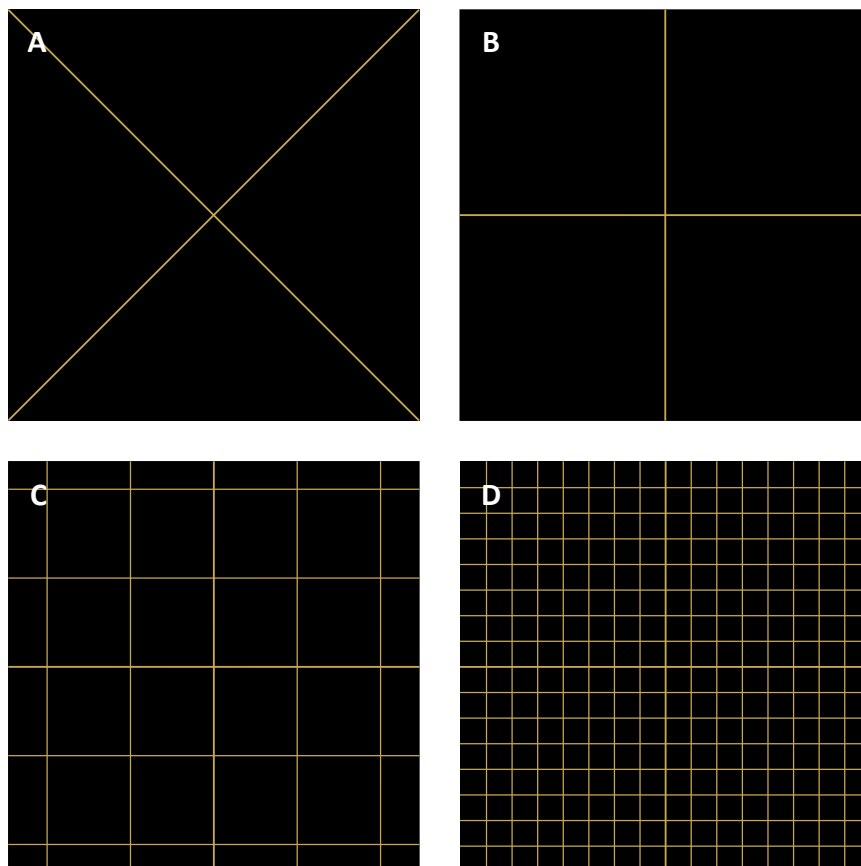

Figure 31 – Grid lines pattern
- Center Cross (x) – see Figure 31 (A)
- Center Cross (+) – see Figure 31 (B)
- Grid lines – see Figure 31 (C)
- Fine grid lines – see Figure 31 (D)